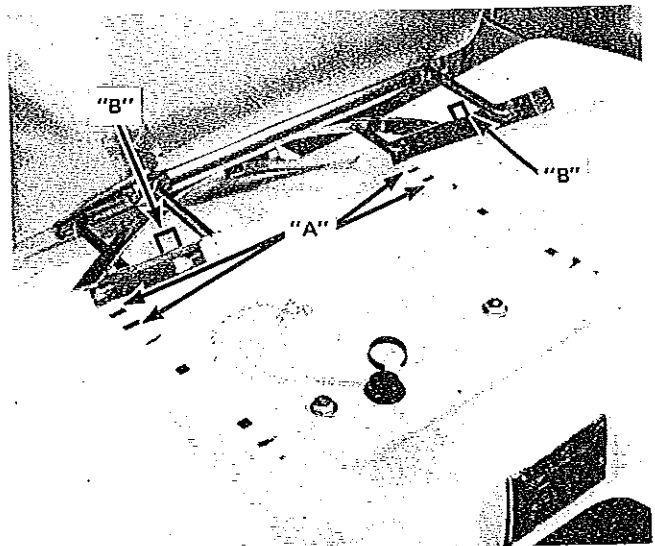

Figure 39
2. Position the lugs of the seat assembly into either of the three pair of slots in the top of the fender assembly. See "A" Figure 39.
**NOTE:** BE SURE THE LUGS ARE IN CORRESPONDING SLOTS ON EACH SIDE OR SEAT WILL NOT BE STRAIGHT. WHEN LOWERING SEAT INTO POSITION PLACE ENDS OF LEAF SPRING TO THE REAR OF PINS IN ASSEMBLY. SEE "B" FIGURE 39.